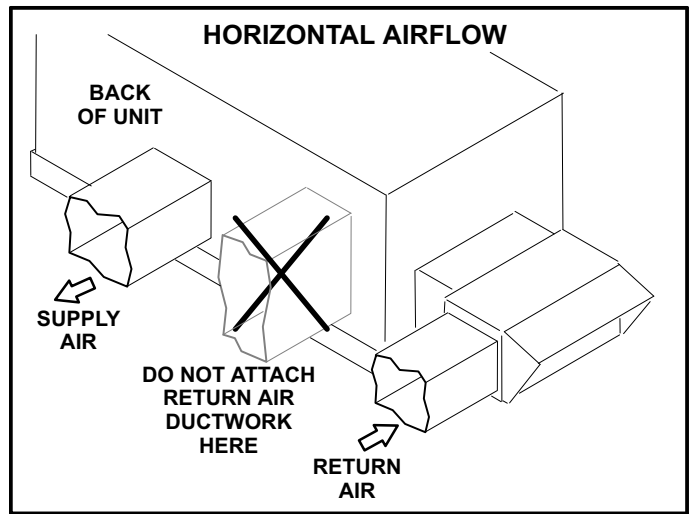

FIGURE 6
- 3- Make sure the horizontal return air cover on the back side of the unit remains in place. The opening is used when an economizer is not installed. See figure 6.